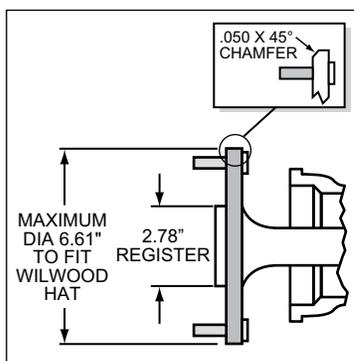

Figure 3. Axle Flange Maximum Dimension
- Axle center register diameter is 2.78", Figure 3. This kit uses Wilwood's removable center register adapters. Rotors can either be centered on the axle register, i.e. *register-centric* or centered on the wheel studs, i.e. *stud-centric*. Due to variations in wheel stud final diameters, *register-centric* centering can be a more accurate method of centering the rotor to the axle. Wilwood offers various diameter adapters for purchase in addition to the ones supplied in this kit, see Table 1.
- Maximum axle flange diameter must be no larger than 6.61" w/.050" x 45° chamfer, Figure 3.